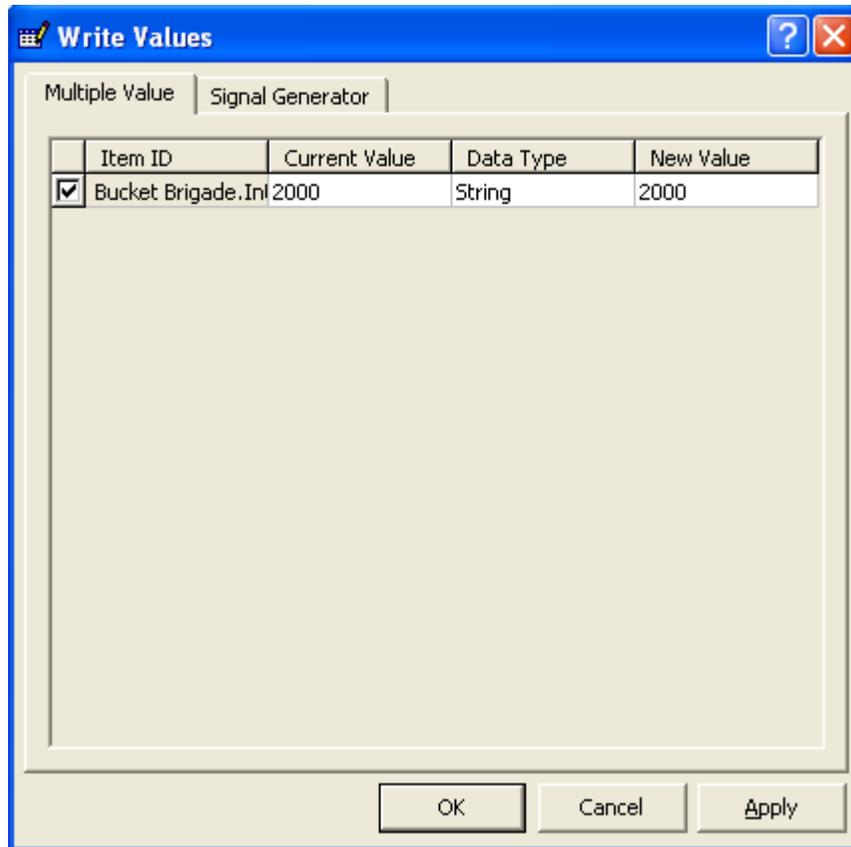

Figure 35 - Write Values Window
2. The **Write Values** window (Figure 35) appears.